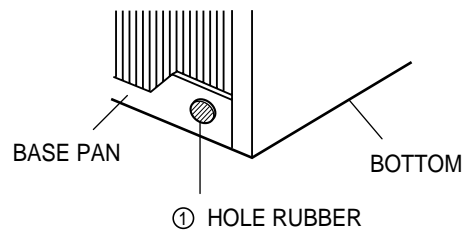

Figure 19
If the air conditioner is used in hot and a high humidity zone, exchange the ① HOLE RUBBER for the ② DRAIN PIPE.(See figure 19, figure 20.)